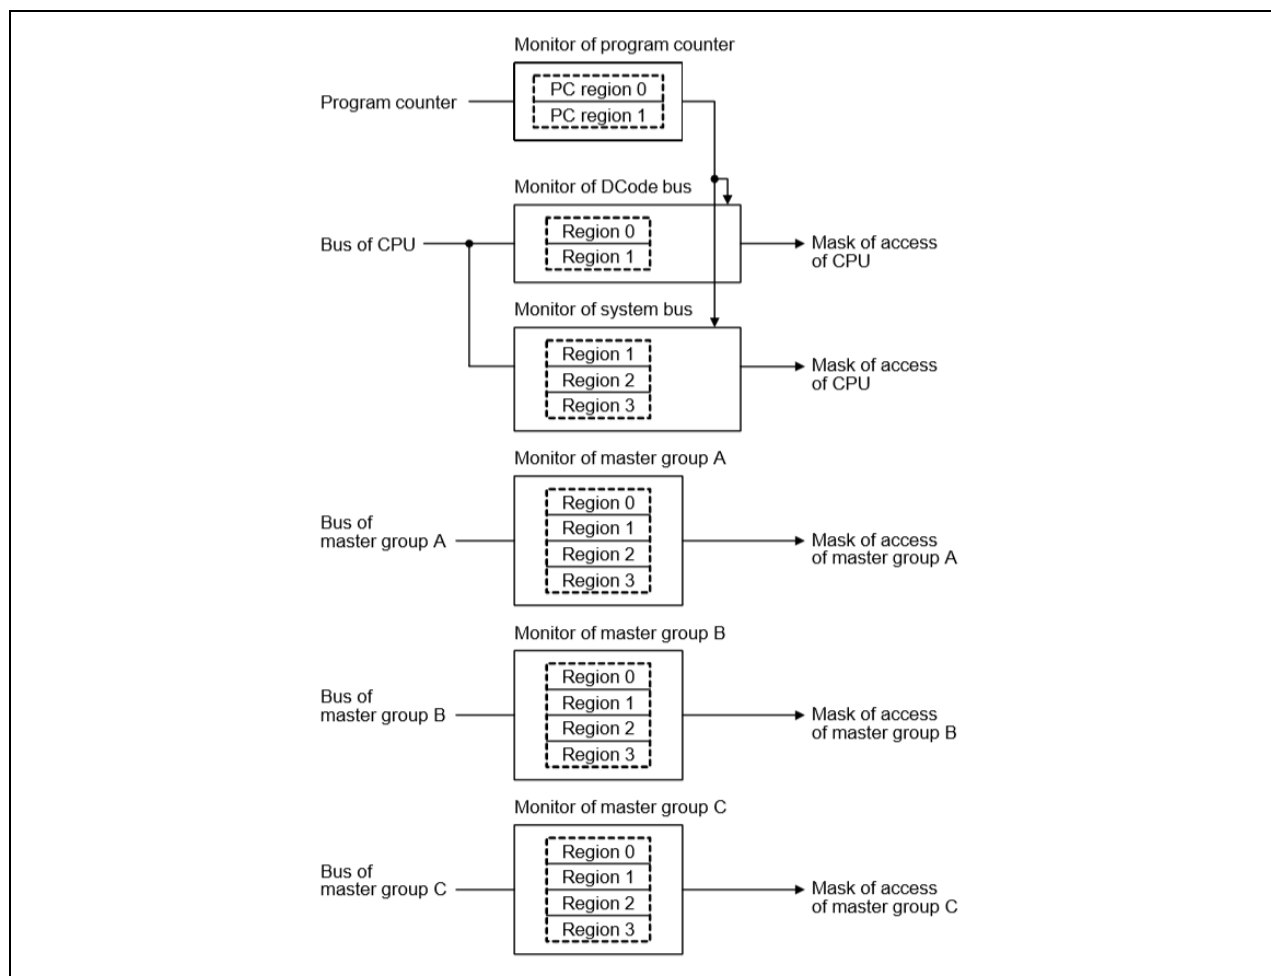

Figure 5. Data Protection for Security MPU Regions
- The Security MPU monitors and protects secure flash and secure SRAM data regions (Region 0 and Region 1) from unauthorized CPU read from the D Code bus (Data access), as shown in Figure 5. The I Code bus (Instruction access) is not monitored. This allows secure instructions to be accessed by the non-secure program.
- The Security MPU monitors and protects secure SRAM data and security function regions from system bus access (such as debugger access), as shown in Figure 5.